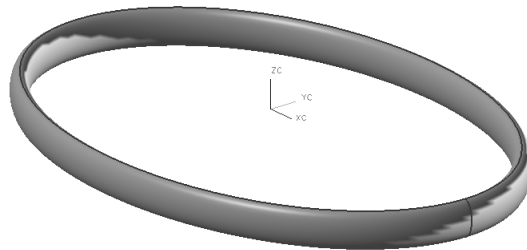

Figure 11-88 The resulting base feature of the surface model
- Choose the **OK** button to create the styled sweep surface. The resulting styled sweep surface is shown in Figure 11-88.